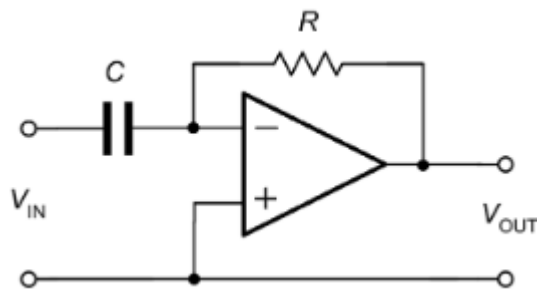

Fig 2.8. A differentiator
- A differentiator using an operational amplifier is shown in Fig. 2.8.